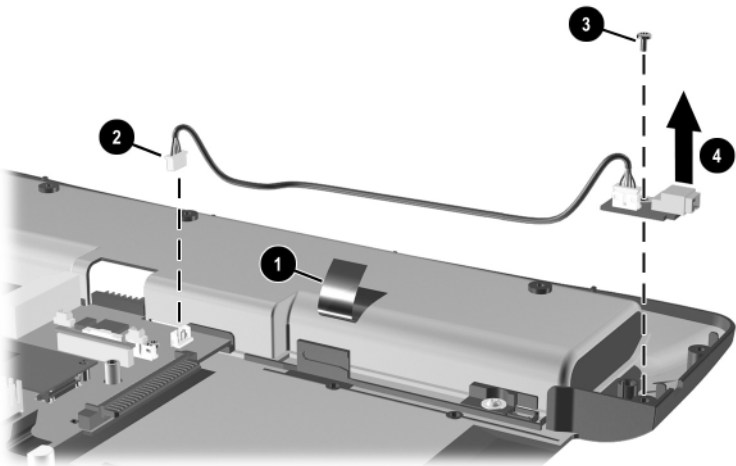

Figure 5-26. Removing the 1394 Board
2. Remove the tape ❶ that secures the 1394 board cable to the base enclosure (Figure 5-26).
3. Disconnect the 1394 board cable from the system board ❷.
4. Remove the PM2.5 × 4.0 screw ❸ that secures the 1394 board to the base enclosure.
5. Remove the 1394 board ❹.